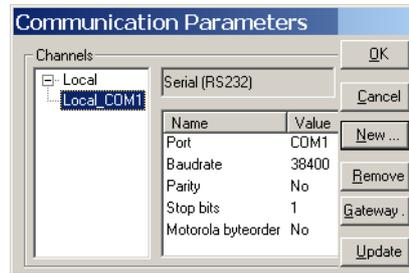

Figure 48:Defining the PC's communication settings
- ▶ Use the remaining settings as shown in Figure 48.